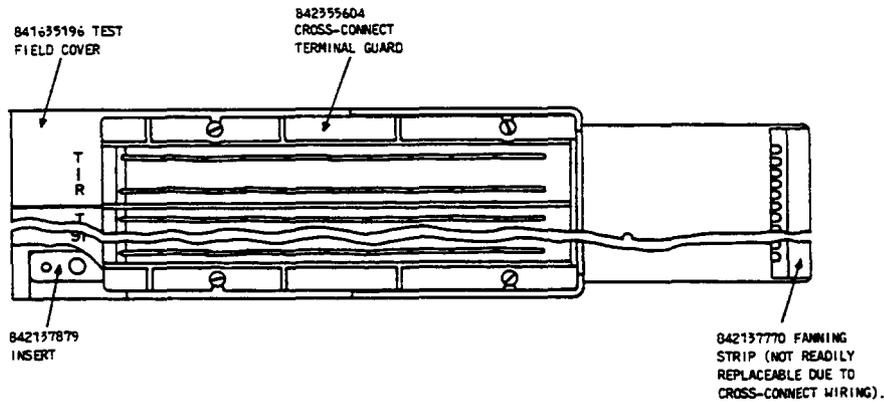

Figure 11—305-Type Connector, Right Side
5.02 842355604 Terminal Guard (Figure 11): This guard attaches to the cross-connect side of the 305-type connector and provides protection against injury from the relatively sharp wire-wrap terminals. It also provides for an orderly arrangement of cross-connect wires in each row. Replace the guard as follows: